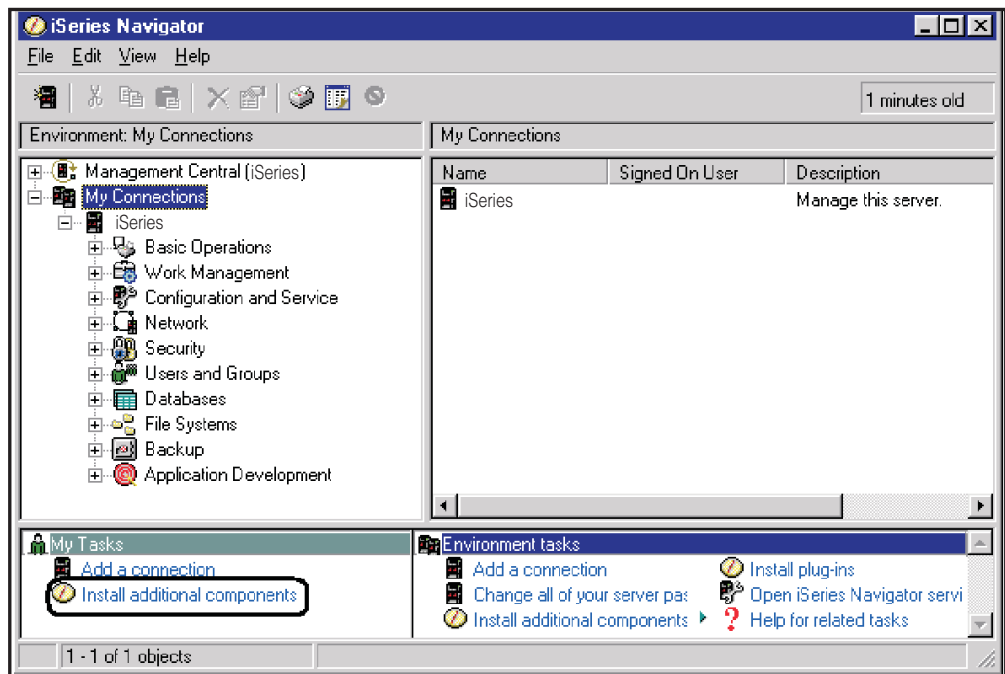

Figure 178. iSeries Navigator Window – Install Additional Components
4. Click **Install additional components** in the task window, this option is circled in Figure 178.